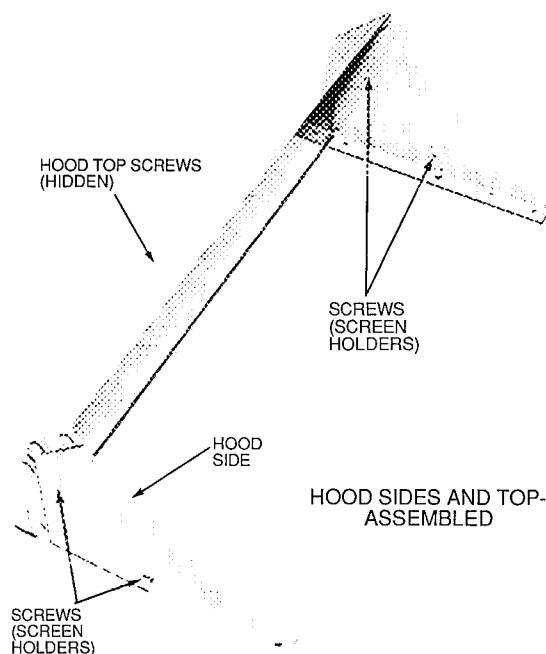
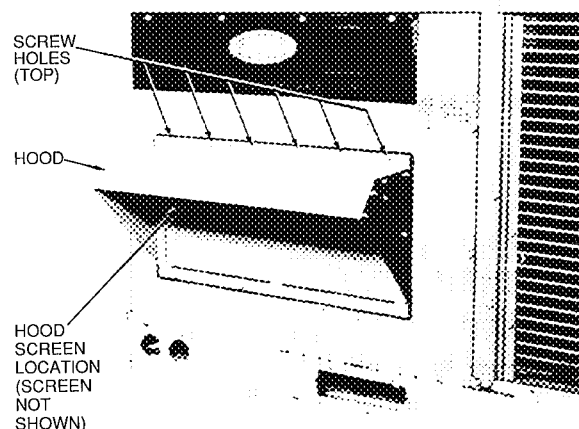

Fig. 14 — Outdoor-Air Hood Details
Fig. 15 — Damper with Hood Attached
5. Place hood on front of evaporator coil access panel. See Fig. 14 for hood details. Secure top of hood with the 6 screws removed in Step 3. See Fig. 15.
7. Align screw holes on hood with screw holes on side of manual outdoor-air damper. See Fig. 14 and 15. Secure hood with 8 screws from Step 6.
9. Remove and save screws currently on sides of hood. Insert screen. Secure screen to hood using the screws. See Fig. 15.